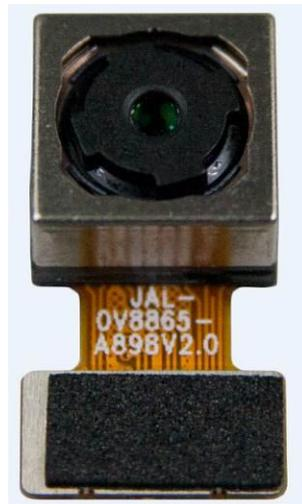

Figure 3-1 MIPI Camera Module
- Terasic D8M-FMC Board equips with an 8M pixel MIPI camera module named OV8865 (See Figure 3-1). The OV8865 color image sensor is a high performance, 8 megapixel RAW image sensor that delivers 3264x2448. It provides options for multiple resolutions while maintaining full field of view. Users can program image resolution, frame rate, and image quality parameters. Camera functions are controlled via I2C bus (CAMERA_I2C_SDA and CAMERA_I2C_SCL). The I2C device address is 0x6C.